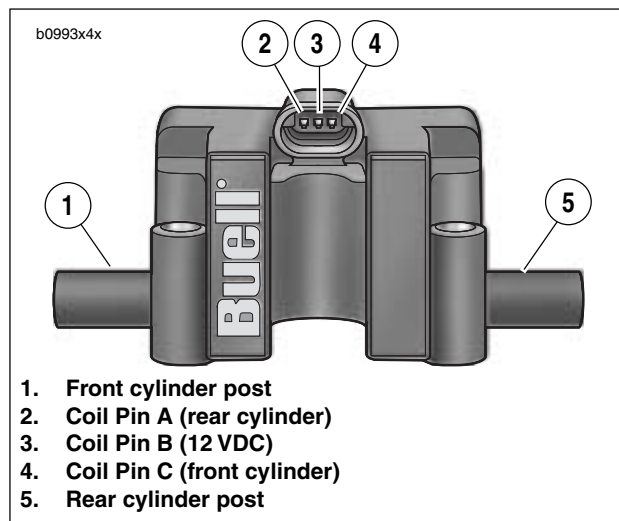

Figure 4-48. Ignition Coil
See Figure 4-48. The coil receives power from the ignition relay at coil pin B (3) at the same time that the fuel pump and injectors are activated.